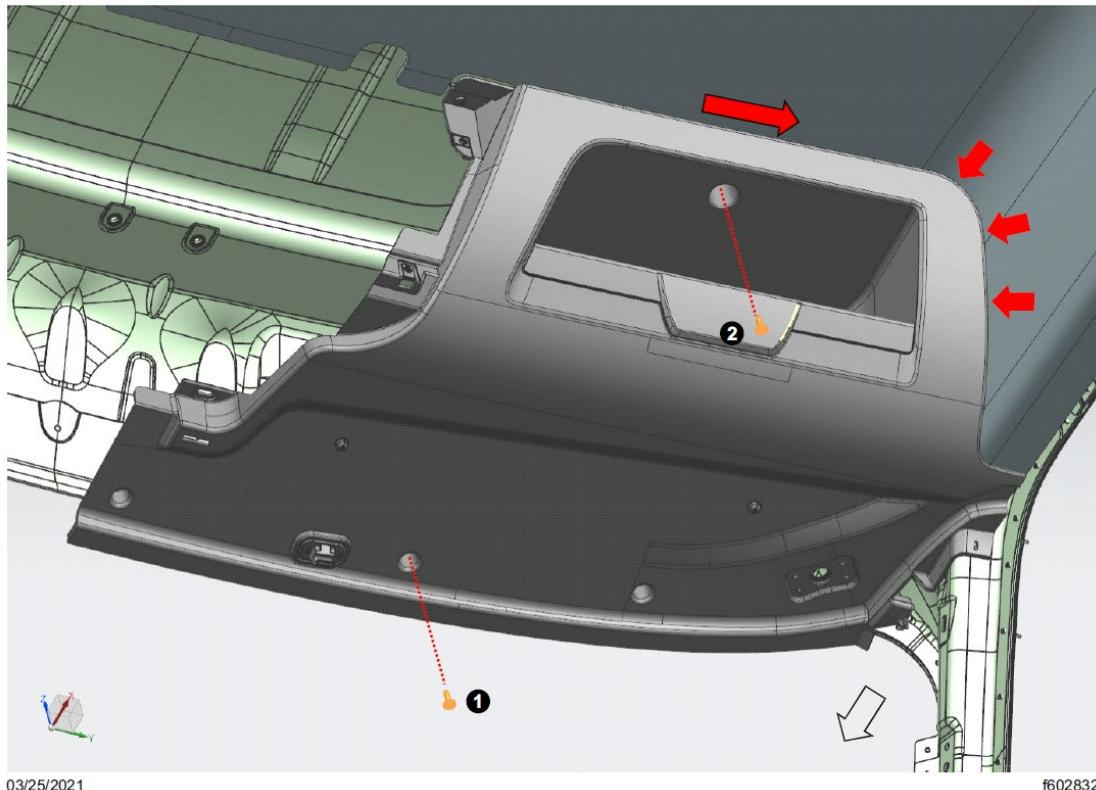

Fig. 24, Install Fasteners That Attach the RH Side Overhead Storage Cabinet to the Cab Roof
6.2. Apply pressure in the direction shown, and then install the two fasteners that attach the RH side overhead storage cabinet to the cab roof. Tighten the fasteners 11 to 13 lbf.ft (14 to 18 N.m) as per the sequence shown in Fig. 24.